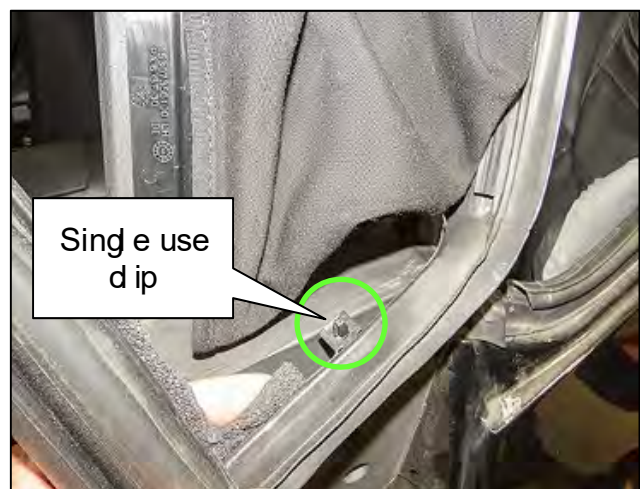

Figure 2
2. Undo the single use dip shown in Figure 2.